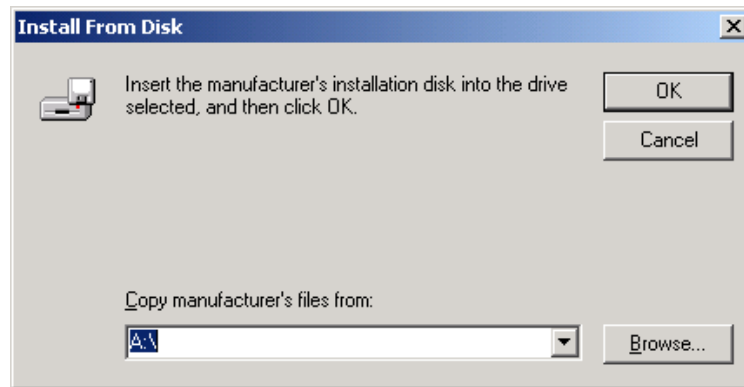

Figure 29. Install From Disk
- 3 When the **Install from Disk** (Figure 29) dialog appears, insert the 3ware driver installation diskette or the 3ware CD-ROM and type the correct path name in **Copy manufacturer's files from:** near the bottom of the box.